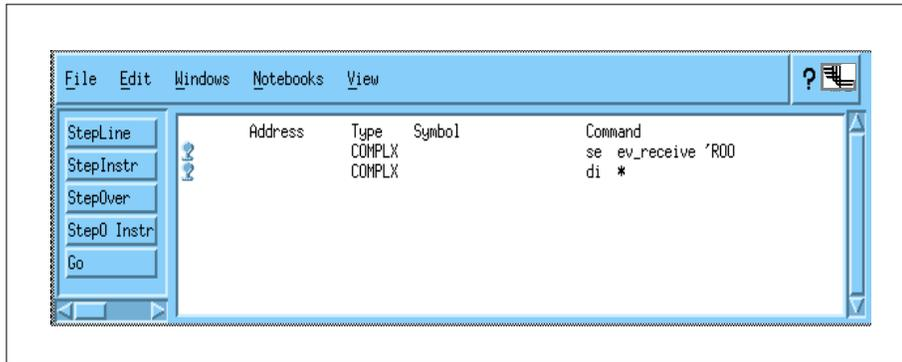

Figure 4-17 Breakpoints Window
2. Select the Breakpoints option. The Breakpoints window appears as shown in Figure 4-17.